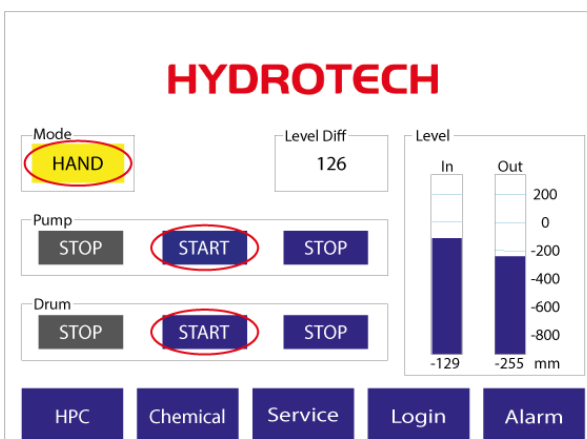

Figure 4.4 Main menu on electrical cabinet operator panel.
2. Once the mode selector has been turned to HAND, "HAND" will be shown in the operator panel main menu, see Figure 4.4. Press the drum "Start" button - see Figure 4.4.
3. Press the pump "Start" button - see Figure 4.4.